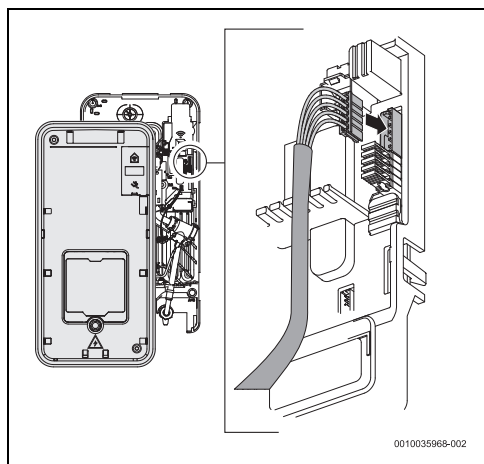

Fig. 53
- ▶ Check if the cable from the operating panel is correctly connected to the electronic board (→ Fig. 53).